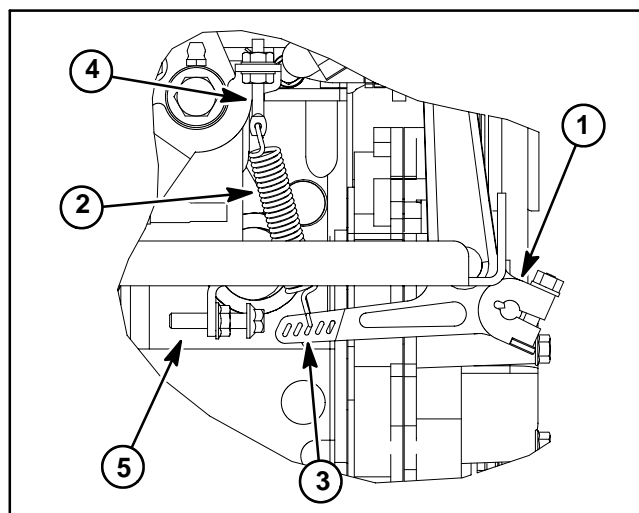

Figure 2
4. Make sure governor spring is assembled to governor link rod on throttle bracket and center slot in engine governor lever (Fig. 2).
9. Using a tachometer, check high idle speed. When accelerator pedal is fully depressed, high idle speed should be 3600 ± 50 RPM. Reposition the high idle stop screw to adjust high idle speed (Fig. 2). Make sure to tighten lock nut after adjusting high idle stop screw.